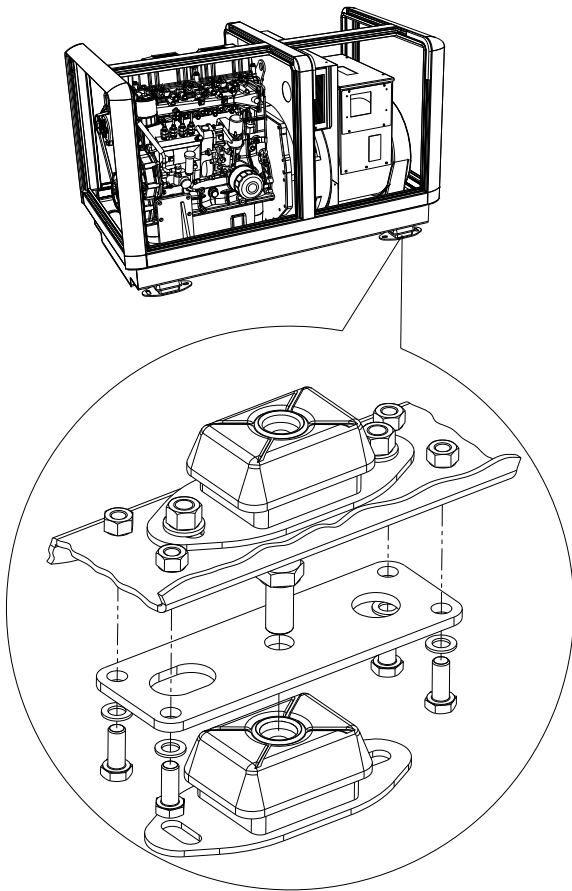

Fig. 34 Exploded view rubber mountings
- 4 Taking the generator set from its mounting, or to replace a mounting can be done according to the drawing below (figure 34)